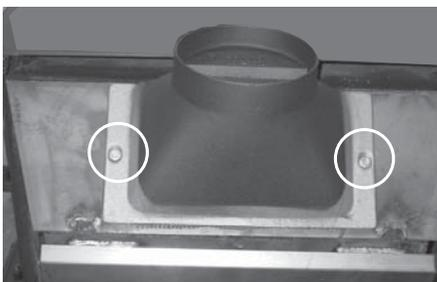

Figure 13.2
3. Remove 1 bolt from each side of the flue transition, and retrieve nuts attached to bolts. Use 3/8" and 7/16" wrenches. **Figure 13.2.**